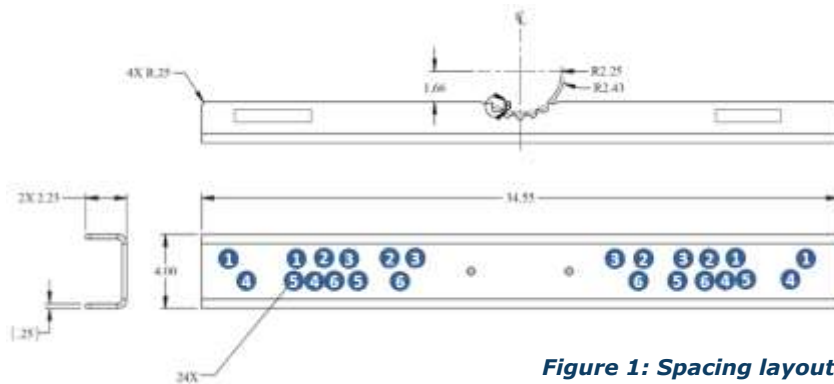

Figure 1: Spacing layout
1. Attach dual mount adapters H to bracket F, using Table 1, Figures 1 and 2, and the following 3/8" hardware: A, C, D, and E. H and accompanying hardware replaces pre-existing antenna mounting bracket.